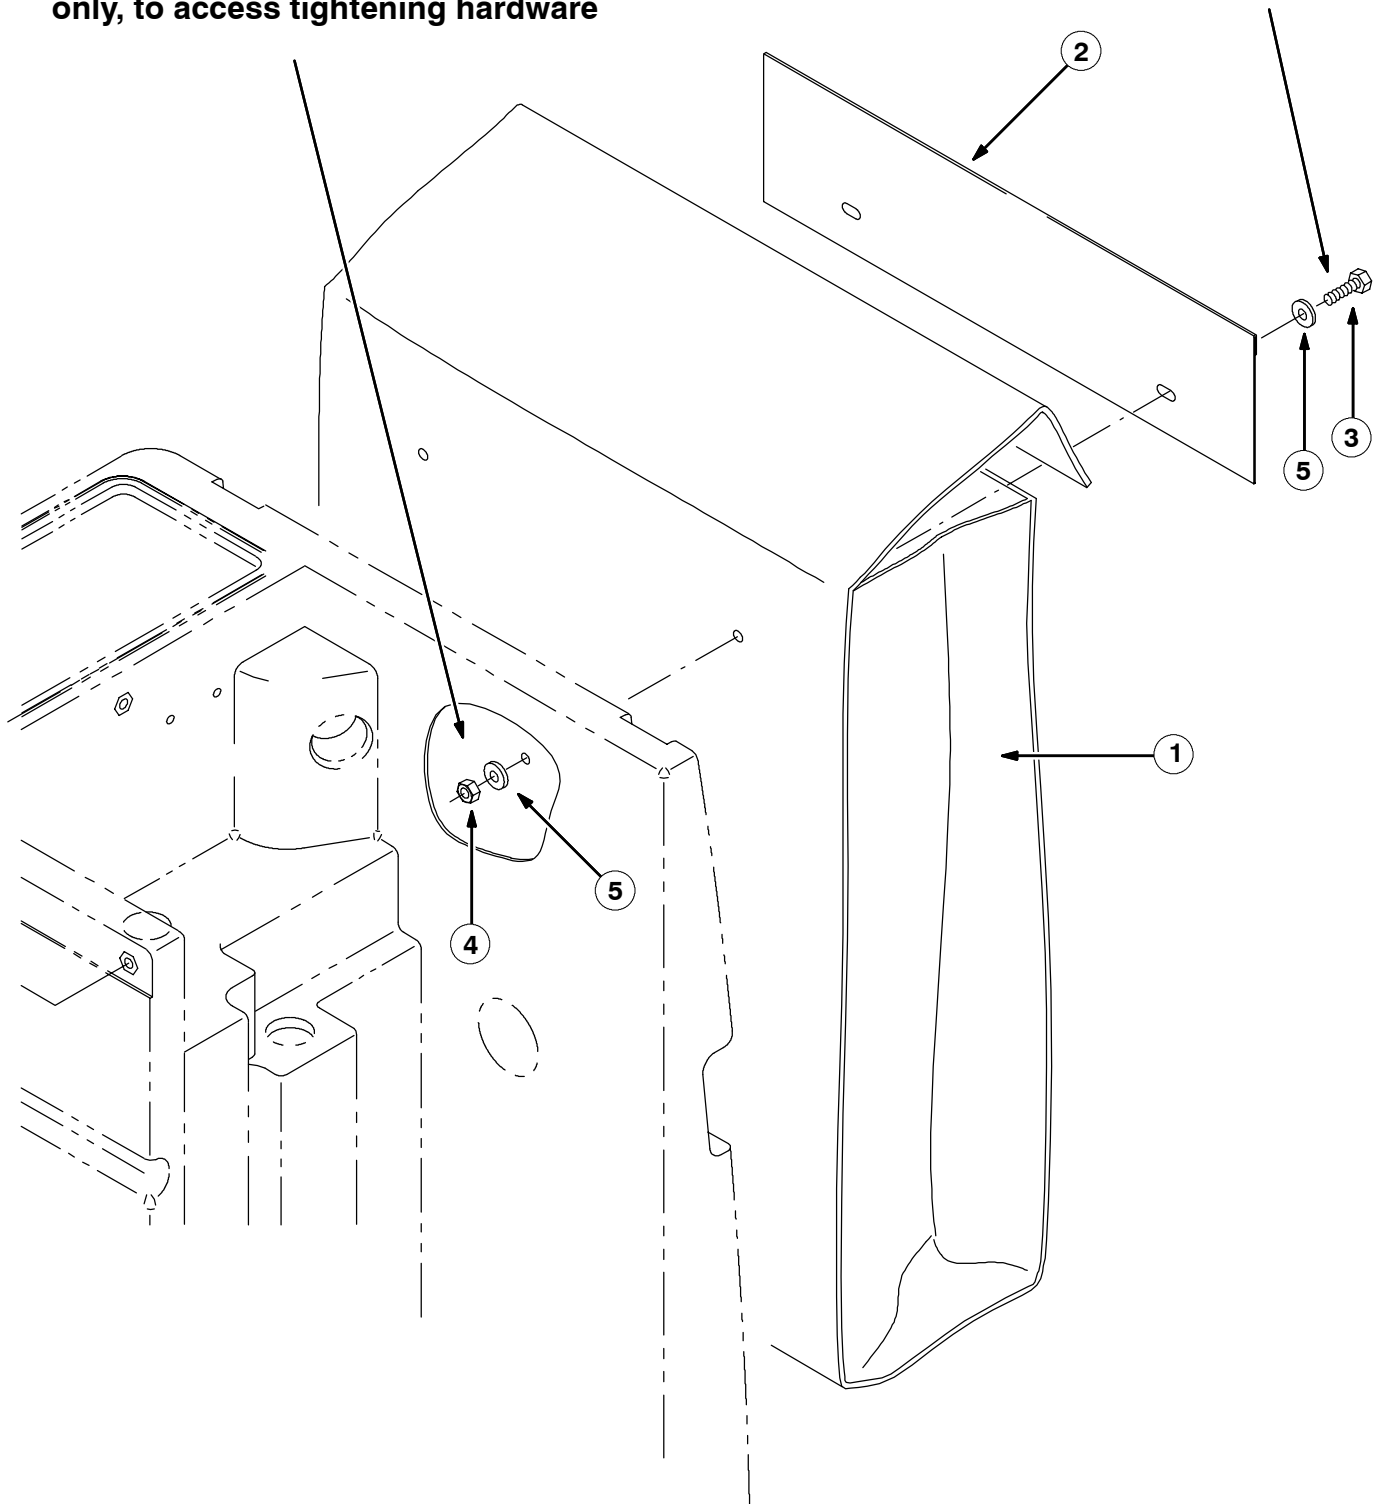

FIG. 2 - STORAGE BAG INSTALLATION
3. Using the two new holes as centerpoints, drill two 2 in. holes from the inside of the machine through the first wall layer. Do not run the hole saw all the way through the machine wall. The 2 in. hole through the inside wall of the machine will only be used to secure the mounting hardware. (Refer to FIG. 2)
4. Mount the bag (1) to the rear of the machine with the mounting bag strip (1), hex screws (3), washers (5) and lock nuts (4). (Refer to FIG. 2)
5. Tighten the bag mounting hardware to 7.6 – 9.9 Nm (5.4 – 7 ft lb). (Refer to FIG. 2)